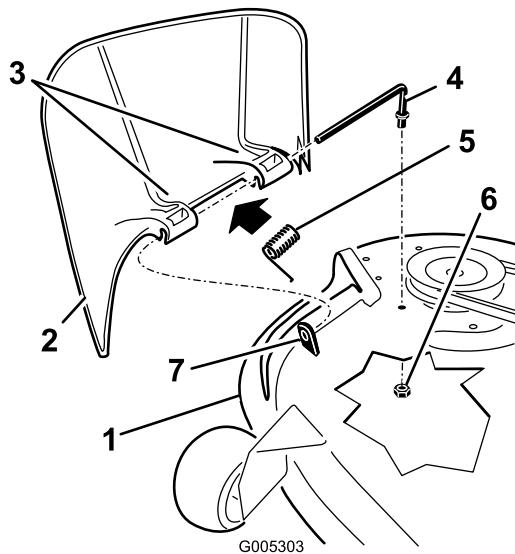

Figure 60
1. Locate items shown in Figure 60.
rod through second grass-deflector bracket (Figure 60).
7. Insert rod at front of grass deflector into short standoff on deck. Secure rear end of rod into the mower with a nut (3/8 inch) (Figure 60).
2. Remove the nut (3/8 inch) from the rod under the mower (Figure 60).
3. Slide the rod out the short standoff, spring, and grass deflector (Figure 60). Remove the damaged or worn grass deflector.
4. Replace the grass deflector (Figure 60).